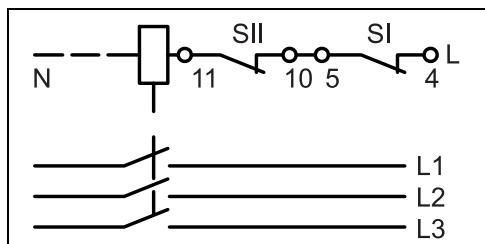

Fig. 38
- When using "SI" and "SII", switch these to a separate backup circuit with emergency shut-off (e.g. separate contactor) (see Fig. 38).